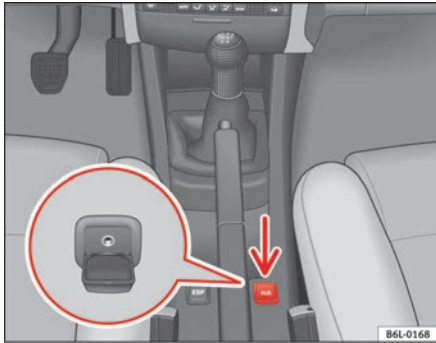

Fig. 87 Auxiliary audio connection
- Lift the AUX. cover ⇒ fig. 87.